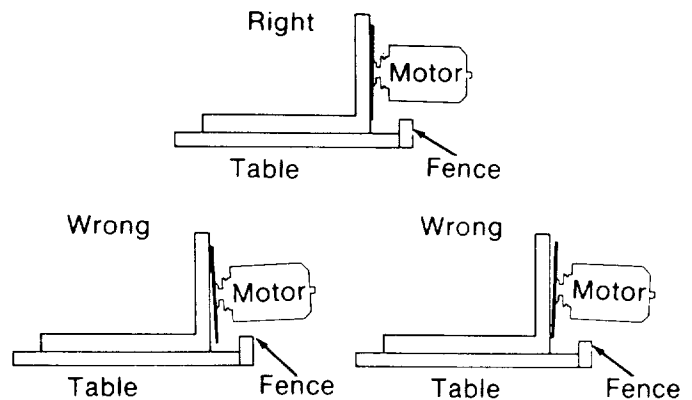

Fig. 75
5. If the square is flush with the *blade* after each rotation (Figure 75) go to step 11, or
If there is a gap between the square and the *blade* after any rotation (Figure 75), go to step 6.